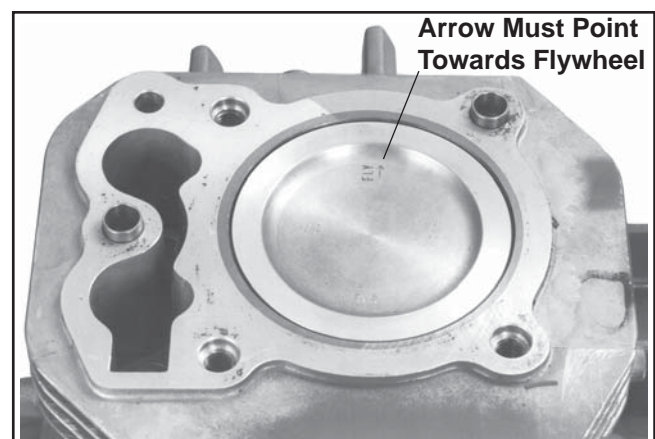

Figure 11-9. Piston Installation Identifier.
3. Place the ring compressor on the top surface of the crankcase and make certain it is seated down around the entire circumference. The "FLY" arrow on the piston should point toward the flywheel side of the crankcase. See Figure 11-9. Use a soft, rubber grip hammer handle and tap the piston/connecting rod into the bore. The first tap should be rather firm, so the oil ring moves from the compressor into the bore in one smooth, quick motion. Otherwise the oil ring rails may spring out and jam between the ring compressor and the top of the bore.